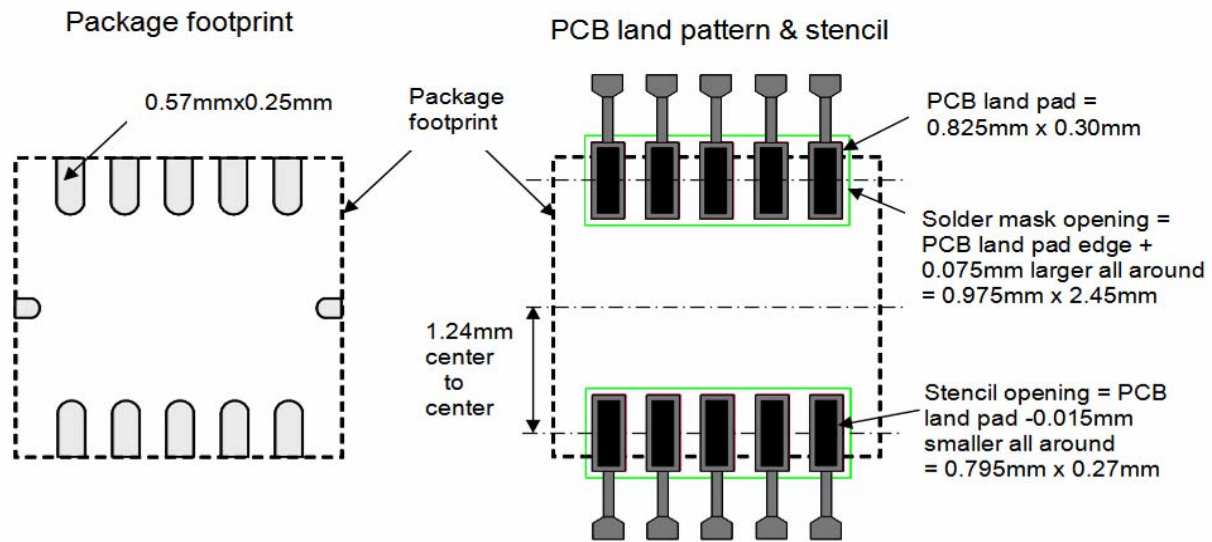

Figure 16. Package Footprint, PCB Land Pattern, and Stencil Design
1. The PCB land should be designed with Non Solder Mask Defined (NSMD) as shown in Figure 16 and Figure 17.
3. PCB land pad is 0.825 mm x 0.3 mm as shown in Figure 16 and Figure 17.
9. Signal traces connected to pads should be as symmetric as possible. Put dummy traces on NC pads in order to have same length of exposed trace for all pads. Signal traces with 0.15 mm width and minimum 0.5 mm length for all PCB land pads near the package are recommended as shown in Figure 16 and Figure 17. Wider trace can be continued after the 0.5 mm zone.